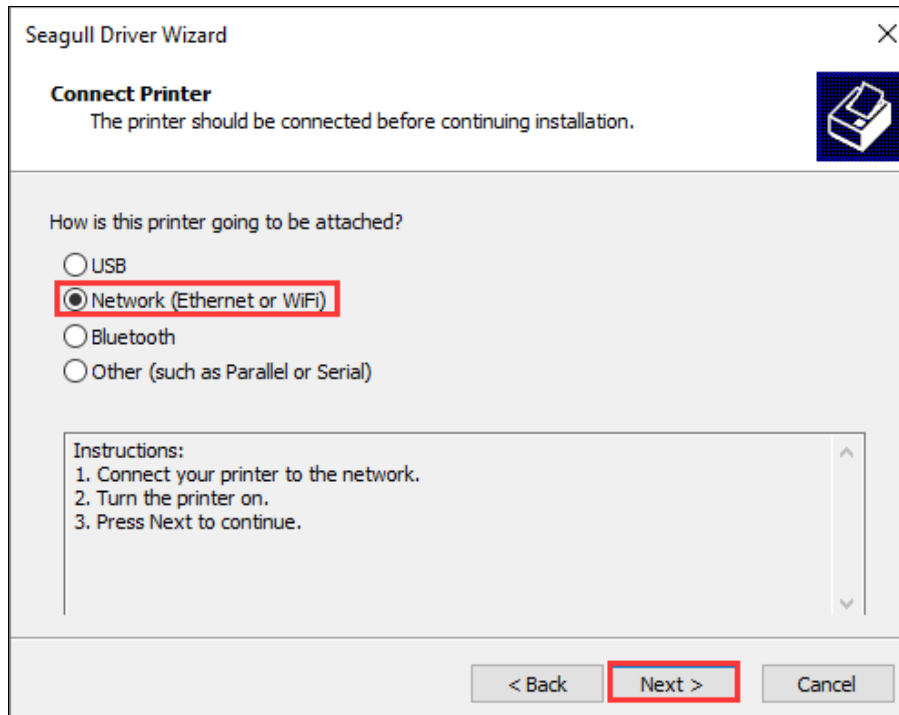

Figure 2-40 Connect Printer Screen
3. On the “Connect Printer” screen, select “Network (Ethernet or WiFi)”, and then click “Next”, as shown in Figure 2-40.